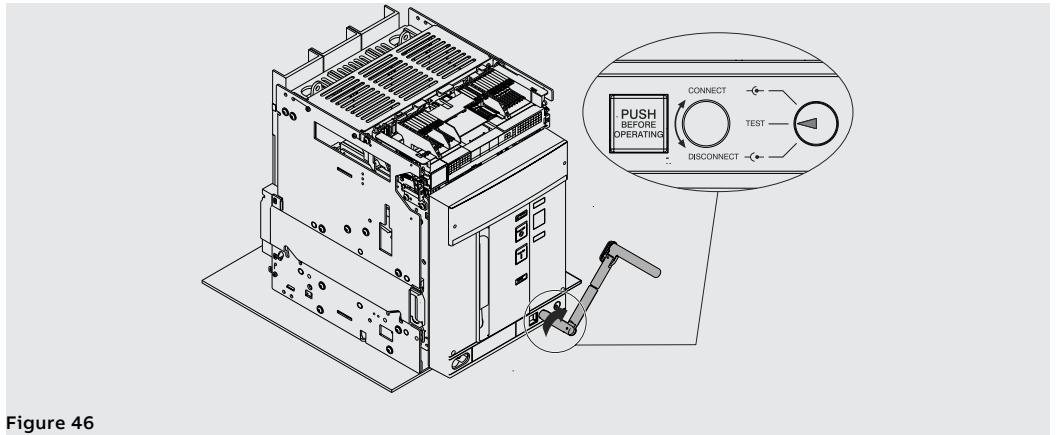

Figure 46
10. Turn the crank clockwise until the pushbutton comes out and the indicator shows that the circuit-breaker is in **TEST** position. See Figure 46.